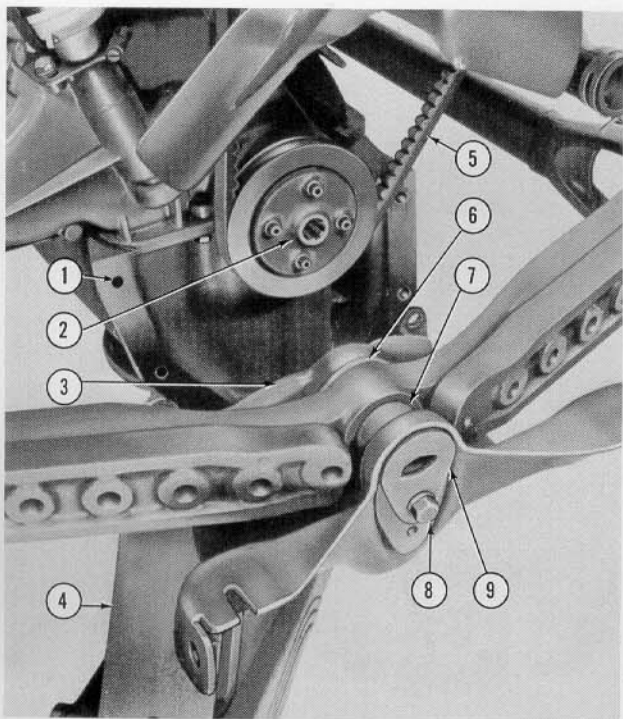
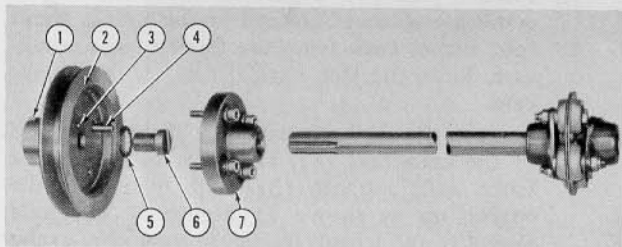

Figure 5
Figure 6
- b. Place a jack (4), Figure 5, under the engine crankcase so that the head of the jack is about four inches back from the front of the crankcase. Raise the jack until it touches the crankcase.
- c. Remove the six bolts which hold the front end of the crankcase (1), Figure 5, to the tractor front axle support (3), and then jack the engine up as shown in Figure 5. The axle assembly and wheels may raise somewhat as the engine is jacked up. If this happens, push the axle assembly down until the wheels rest on the floor.
d. Remove the fan belt (5) Figure 5.
f. Install the new adaptor sheave (2), Figure 6, on the end of the tractor crankshaft. Be sure the keyway (1) on the sheave (2) fits over the key on the crankshaft. Then drill a  $\frac{1}{4}$ " hole  $\frac{7}{8}$ " deep into the pulley and tractor crankshaft through the pilot hole (3), Figure 6. Clean the hole out and insert the  $\frac{1}{4}$ " x  $\frac{3}{4}$ " dowel pin (4). Fit the internal lockwasher (5), on the special cap screw (6) and turn the cap
screw into the sheave. Position the drive plate (7), Figure 6, on the sheave as shown at (2), Figure 5, and secure it in place with the four Allen head screws and lockwashers provided.
- h. Remove the cap screw (8), Figure 5. Raise or lower the jack slightly until the axle pin (9), can easily be removed from the tractor. Remove the washers (6) and spacer (7) as the pin (9) is pulled out.
- i. Insert the new axle pin through the axle, repositioning the washers (6), Figure 5, and the spacer (7) on the pin as it is installed.